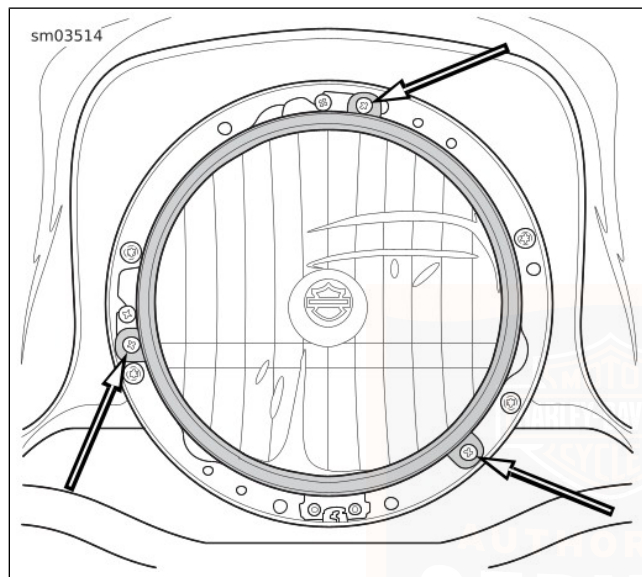

Figure 60. Headlamp Retaining Screws (typical)
2. See Figure 60. Remove screws securing headlamp assembly.